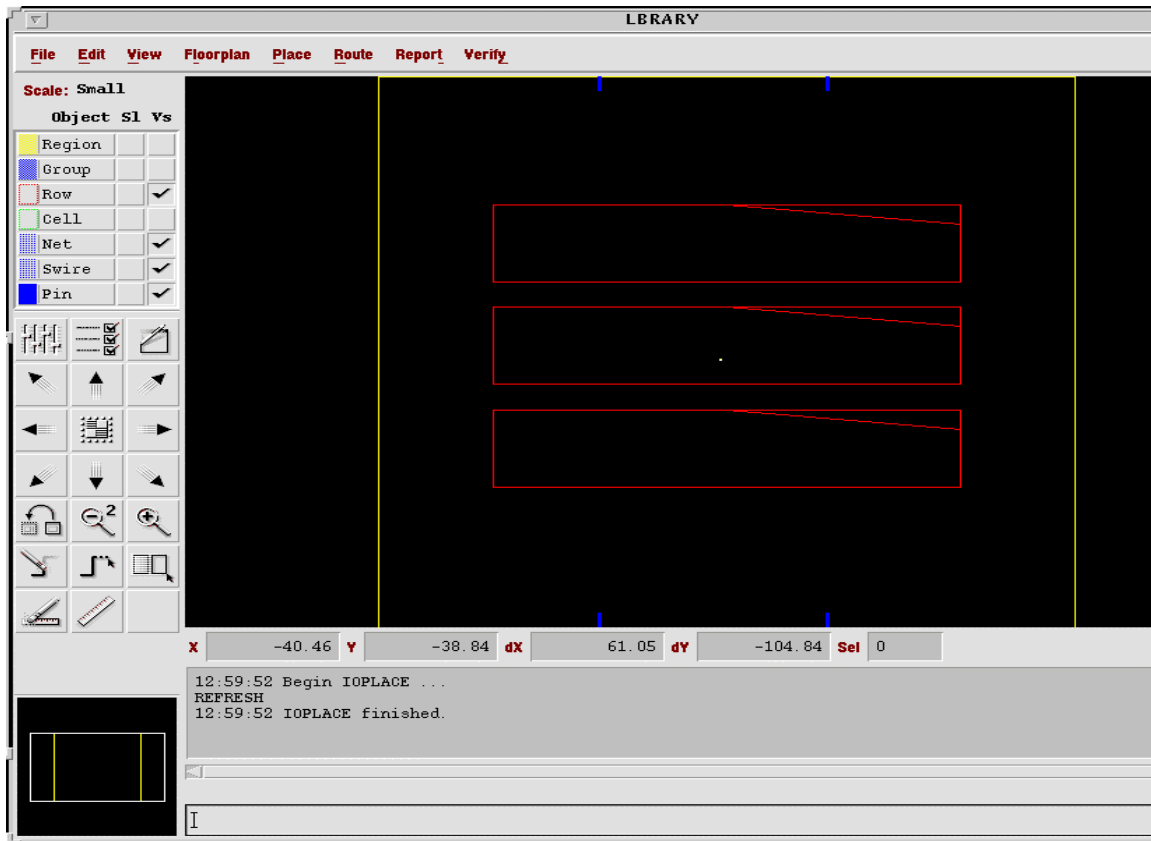
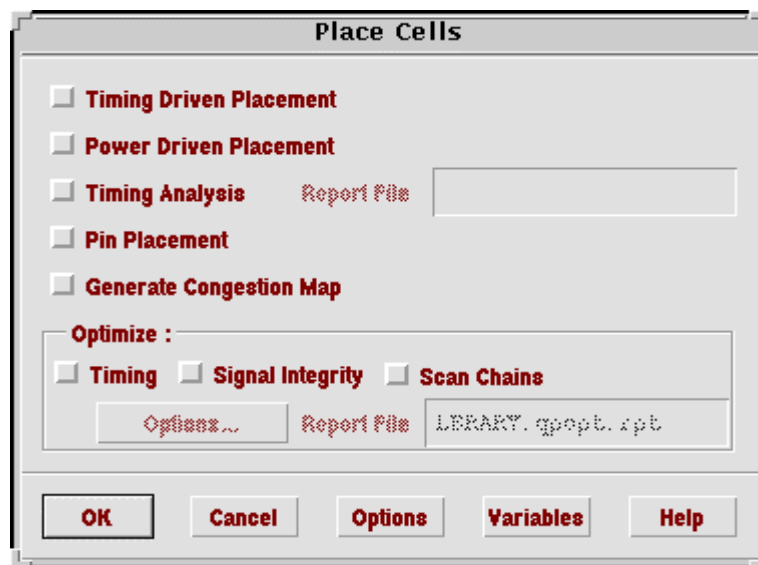
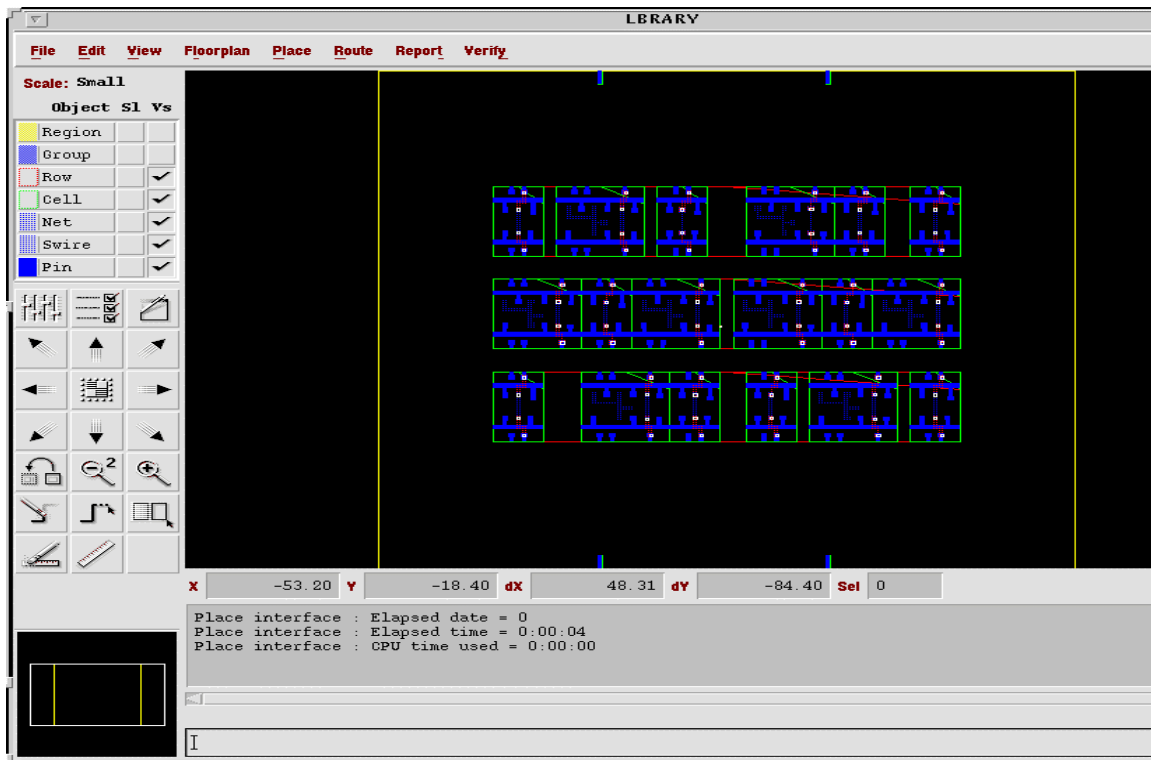

Fig 11: IOs Placed
Fig 12: Place Cells
Fig 13: Cells after placing
The placement of the IOs is as shown in Fig 11.
- b. In Fig 11 select **Place** -> **Cells** and the “Place Cells” window opens as shown in Fig 12. In Fig 12 click **OK**. The cells will be placed as shown in Fig 13. If there is an error saying that Impossible to Place without Overlaps, go back to floorplanning and reduce the row utilization and repeat the procedure from floorplanning.
- a. In Fig 13 select **Route** -> **Plan Power** and the “Plan Power” window opens as shown in Fig 14. In Fig 14 click **Add Rings**.